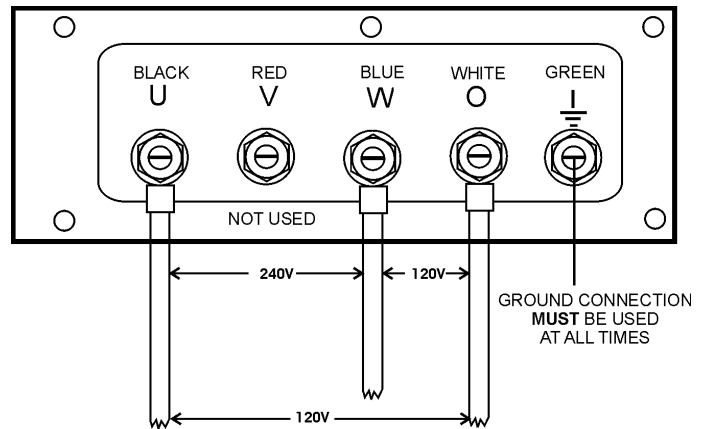

Figure 29. UVW Terminal Lugs 1Ø-240V/120V Connections
2. Connect the load wires to the UVW terminals as shown in Figure 29.